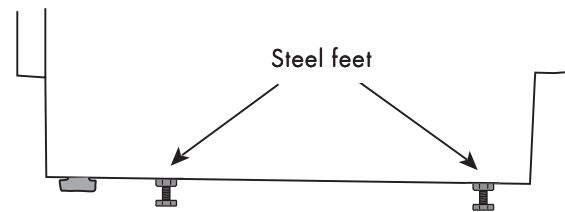

Figure 4.
1. Adjust the height of the machine with the four steel feet. (see Figure 4)